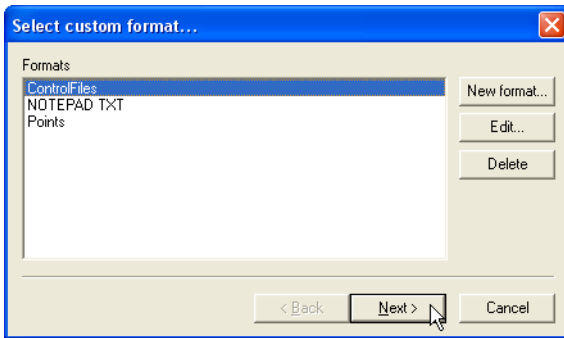

Figure 9-26. Select Custom Format
2. On the *Select custom format* dialog box, select the format type and click **Next** (Figure 9-26). See “Creating Custom Import/Export Formats for Text Files” on page 2-2 for creating new formats or editing current formats.